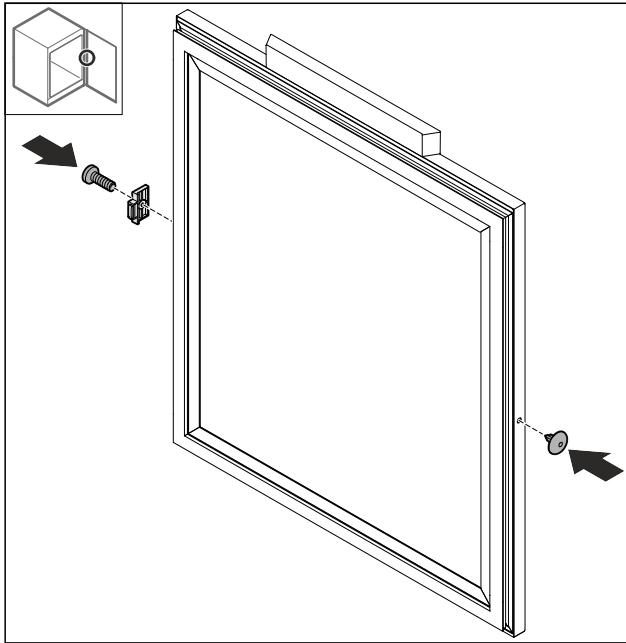

Fig. 47
- Mount the door stopper Fig. 47 (1) turned by 180° on the opposite side.
- Insert the cover Fig. 47 (2) on the opposite side.